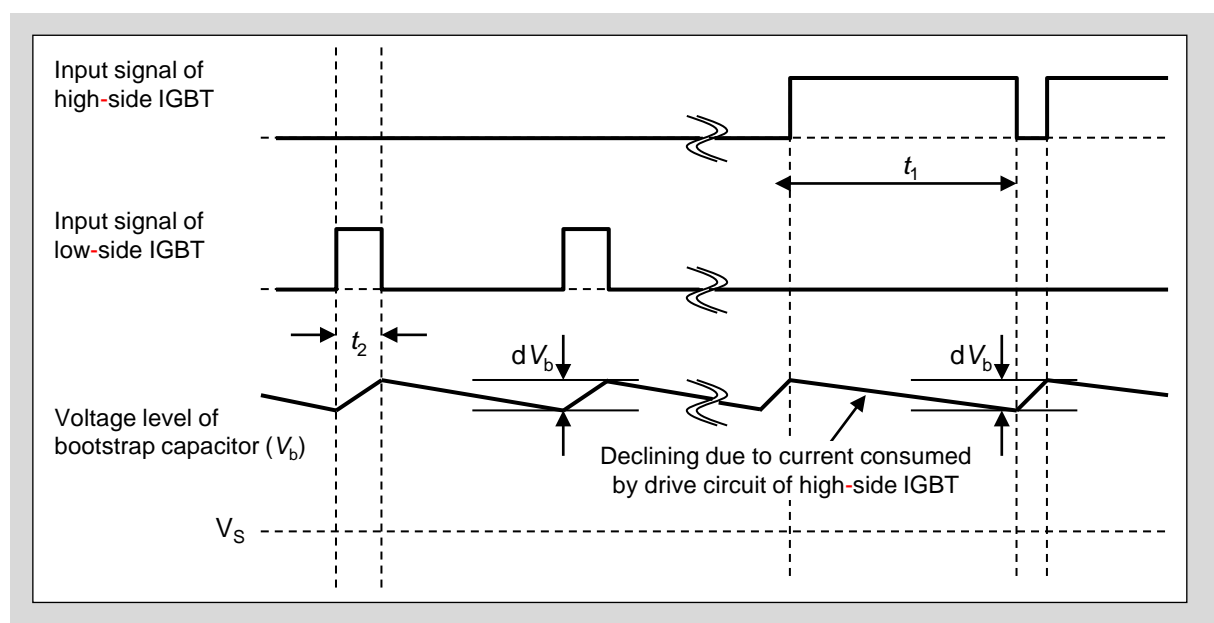

Fig.3-10 Timing chart of charging and discharging operation
dV_b : the allowable discharge voltage. (see Fig.3-10)
- However, if the control mode only has the high-side IGBT switching (Sequence Fig.3-10), the time constant should be set so that the consumed energy during the ON period can be charged during the OFF period.